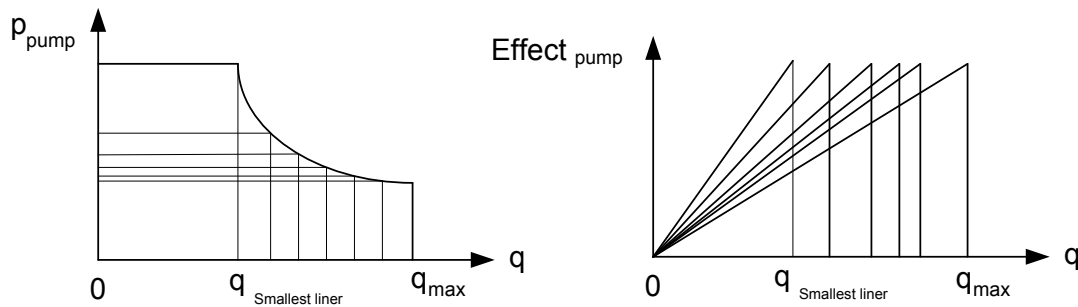

Figure 4-1: Maximum pump pressure for each liner (left) and maximum effect for the same (right)
a) Characteristic diagrams of mud pumps are shown in Figure 4-1:
Power or effect = $E = p \cdot q$, is expressed in Horse Power (HP) or in watt (W). As shown in Figure 4-1 (to the right) the maximum effect is constant for all liners.